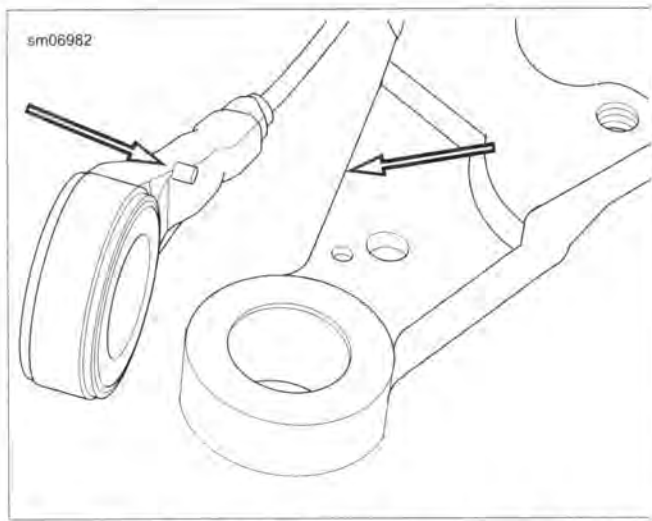

Figure 7-79. Rear Wheel Speed Sensor Index Pin (ABS Models)
1. See 2.5 REAR WHEEL and Figure 7-79. Install axle with **new** rear WSS in place. Make sure that index pin is pointed outboard toward rear fork. Rotate WSS so index pin is against lower edge of rear caliper mounting bracket.